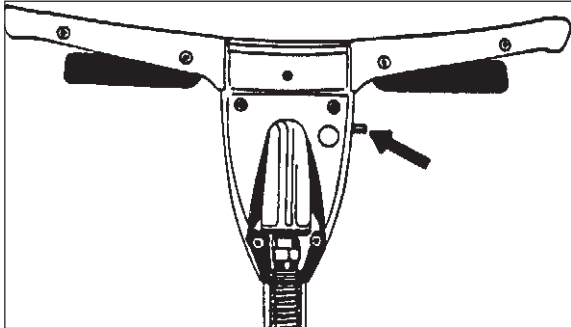

Figure 2
**The Interlock Switch.** See figure 2.
(Véase fig. 2)
(Voir fig. 2)